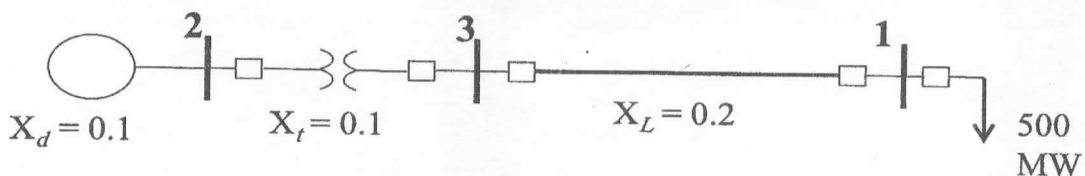

Figure 1
b) The single-line diagram of a simple power system is shown in Figure 1. All impedances are expressed in per unit on a common MVA base. All resistances and shunt capacitances are neglected. (15 Marks)